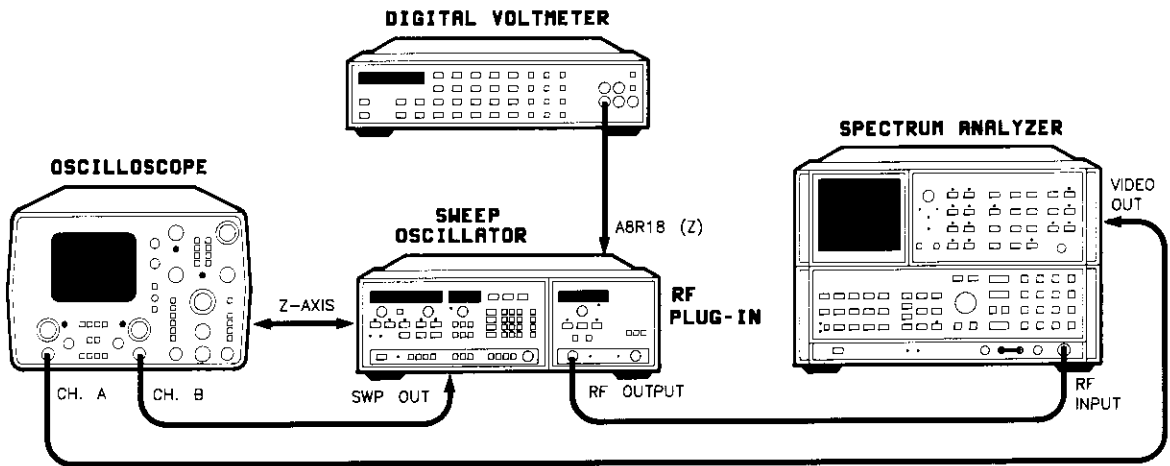

Figure 5-14. YO Delay Compensation Test Setup
1. Connect the equipment as shown in Figure 5-14. Allow the equipment to warm up for 1 hour.